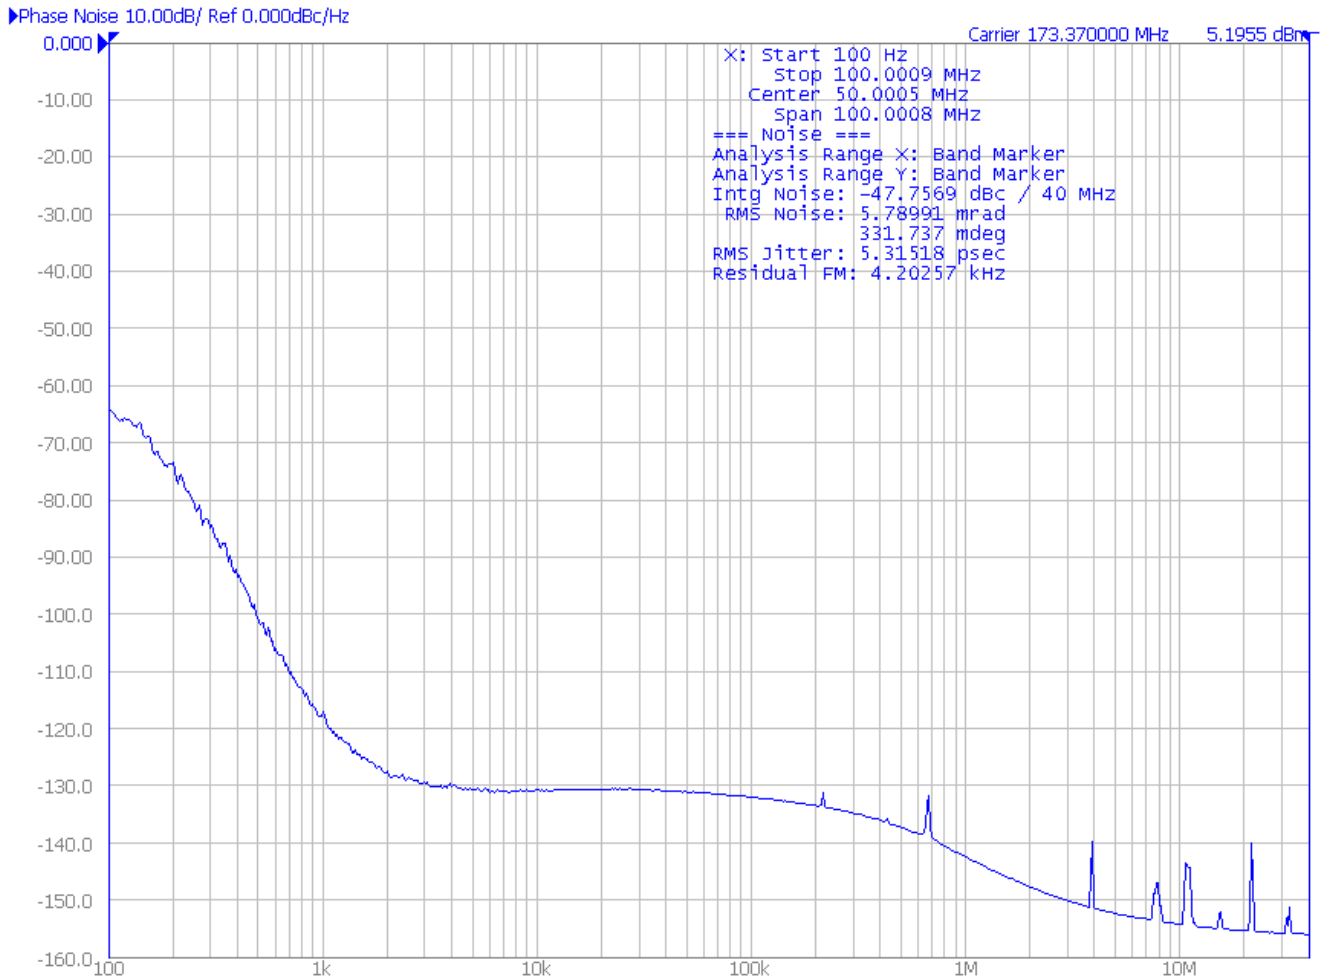

Figure 80. 86.685 MHz In; 173.371 MHz Out
**Table 59. Jitter Values for Figure 80**